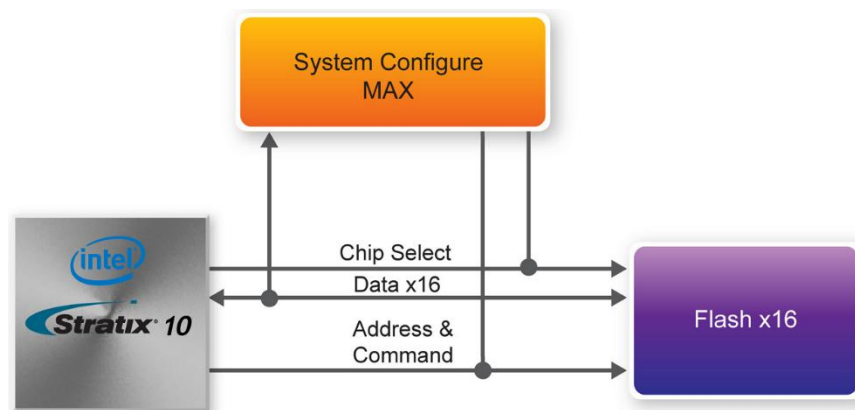

Figure 2-12 Connection between the Flash, Max and Stratix 10 GX/SX FPGA
The flash has a 16-bit data bus allowing for Avalon-ST x8 configuration. This device is part of the shared flash and MAX (FM) bus, which connects to the flash memory and MAX V CPLD (5M2210) System Controller. **Figure 2-12** shows the connections between the Flash, MAX and Stratix 10 GX/SX FPGA.